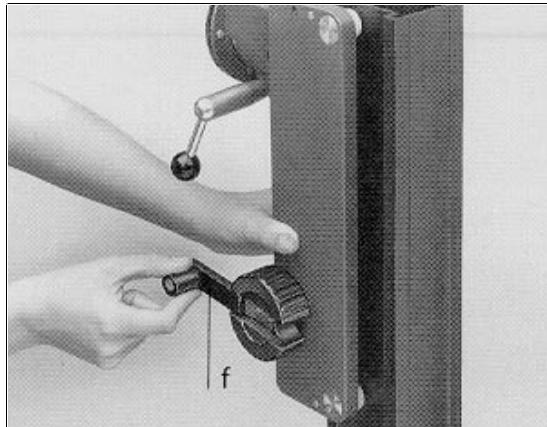

Figure 2-7. Vertical Carriage Height Adjustment Lever
- c. Lower the carriage further, until the two white rollers at the top rest against the top of the column (figure 2-7). Slowly rotate the height adjustment lever (f) in a clockwise direction and, as the carriage slowly goes down, make sure the white rollers feed in behind the rails.